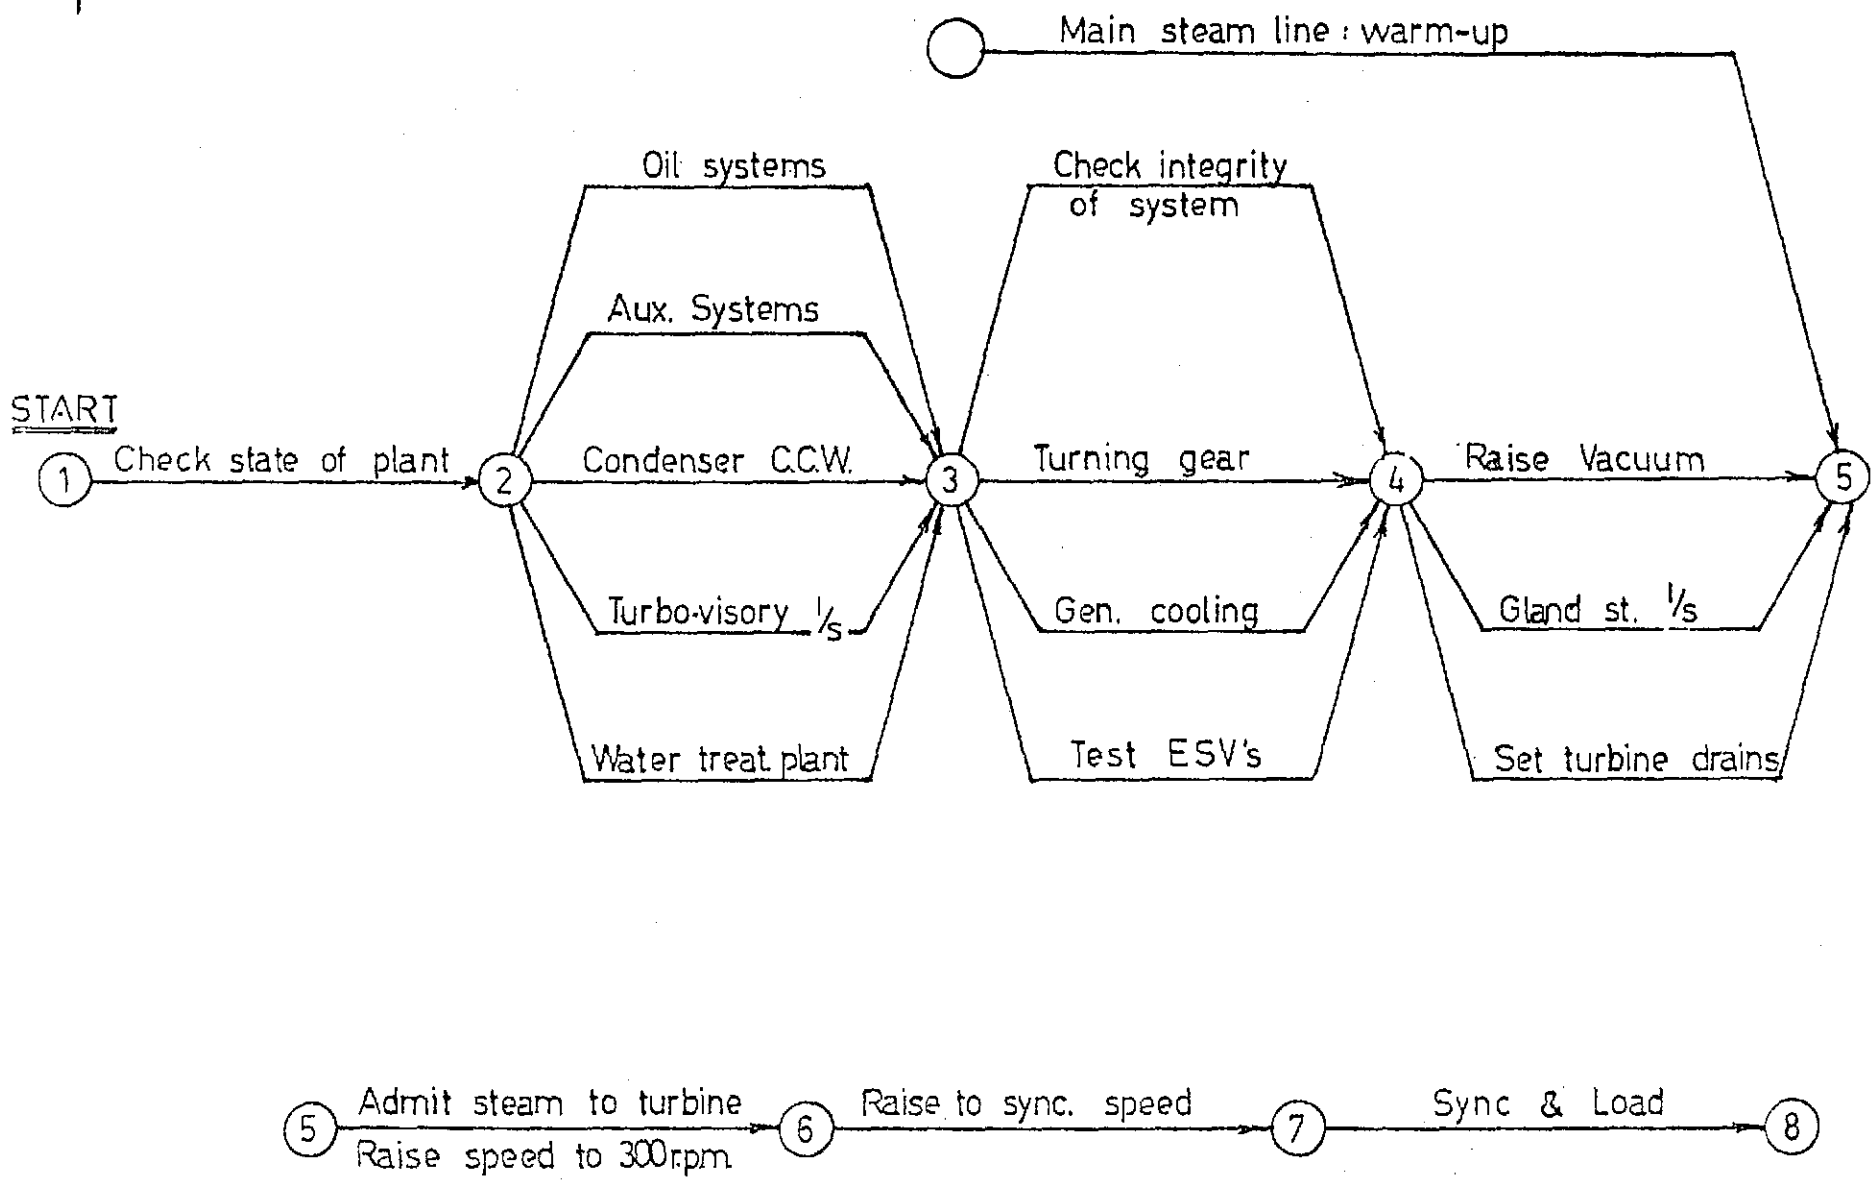

Figure 4.1
Figure 4.1 shows graphically the major steps required for the start-up of a large turbine unit.
1. Using Figure 4.1 as a guide, discuss the major steps involved in starting up a large turbine unit.